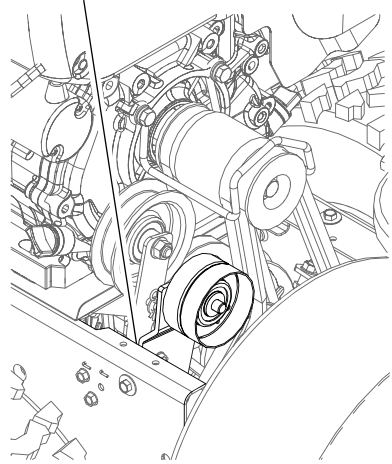

Figure 30
5. With the attachment clutch disengaged, check that the attachment idler arm lightly touches the frame (Figure 30).